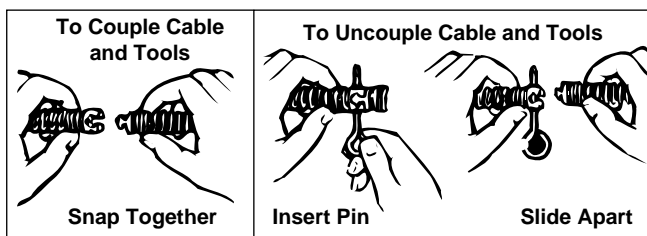

Figure 1 – Coupling and Uncoupling Rods and Tools
(Figures 1 & 2)
6. Couple rod to machine using rod holder if using RIDGID/Kollmann sectional rods with K-10 Speed Coupler. (Figure 1)